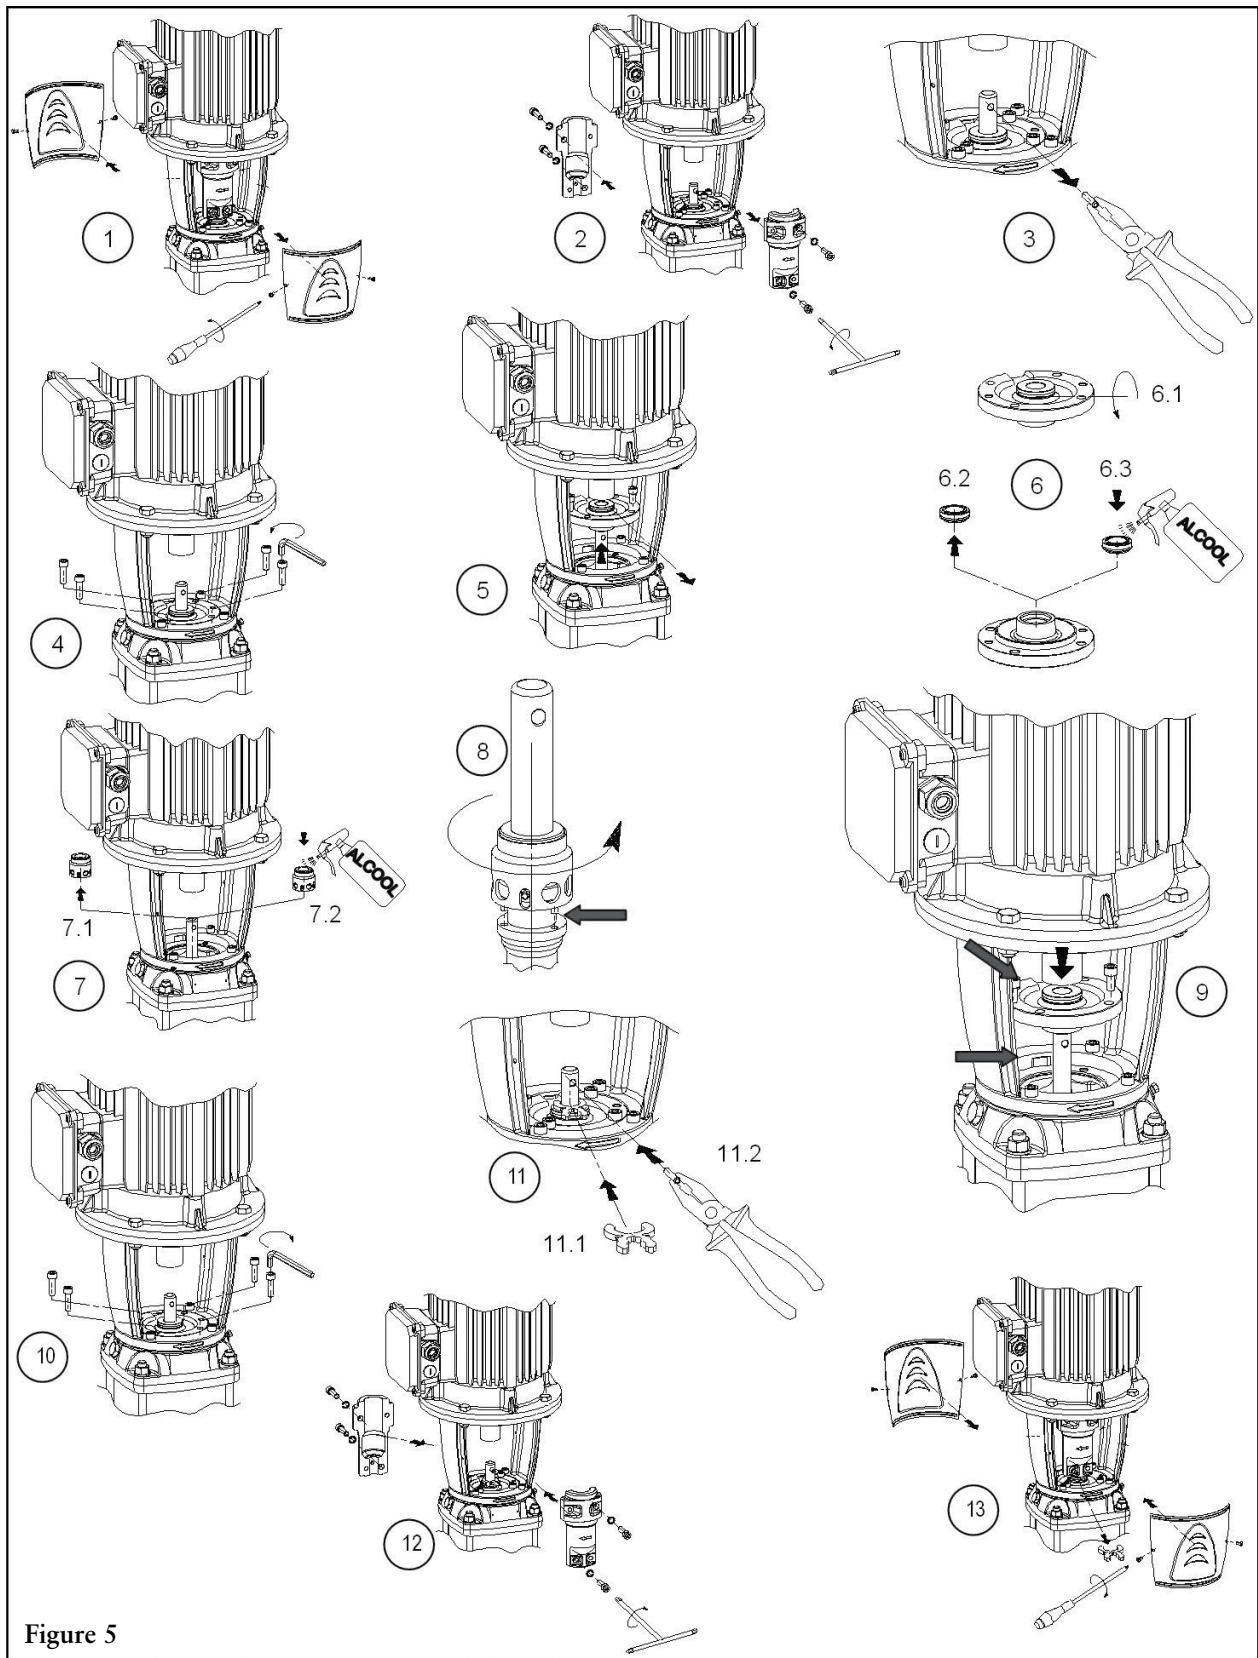

Figure 5
7. Remove the rotary portion at the mechanical seal by sliding the rotary unit axially upwards along the pump shaft. Inspect the pump shaft for any burrs or debris. Any burrs should be around smooth with (fine grit) emery paper. See step 7 in Figure 5.
8. Lubricate the o-ring located in the ID of the rotary unit of the mechanical seal with a lubricant compatible with the seal elastomers. Carefully slide the rotary unit of the mechanical seal down the shaft. Rotate the seal to locate the pin on the bottom of the seal with the holes in the shaft sleeve (33-125SV only). Cycle seal up and down to lubricate o-ring and prevent seal from sticking to shaft. See step 8 in Figure 5.
See step 9 in Figure 5.
10. Reinstall the 4 hex cap screws, tightening the screws evenly and then torquing them to the values given in the engineering data. See step 10 in Figure 5.
11. Reinstall the coupling pin and locate the space shim on the shaft on the seal housing. **If the shim is not available, a 5 mm spacer can be used.** See step 11 in Figure 5.
12. Reinstall the coupling halves and evenly tighten the coupling bolts and torque them to the values given in the coupling section. Remove the spacer shim and save for future use. See step 12 in Figure 5.